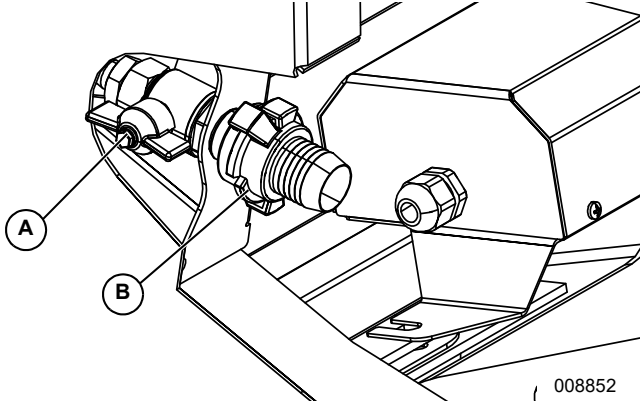

Figure 2-2. Connecting Water Supply
1. See **Figure 2-2**. Verify water valve (A) is closed.